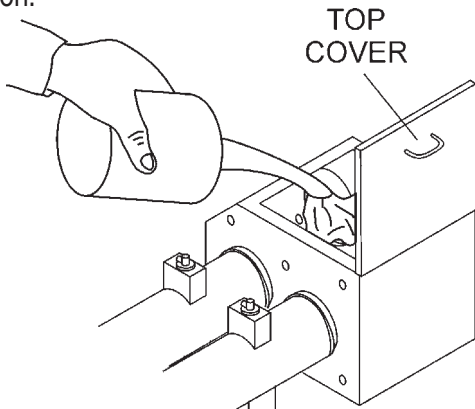

Figure 15. Filling the Lubrication Box
15. Check the oil level in the **lubrication box**. If low, fill with up to 3 gallons of SAE #30 motor oil (Figure 15). The oil level must be checked daily. The lubrication box should be serviced as described in the maintenance section.